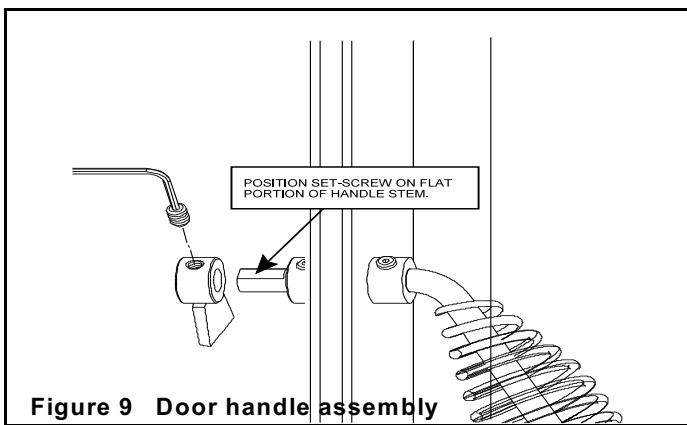

Figure 9 Door handle assembly
1. Position handle assembly through door and secure with collar by sliding over shaft and tightening with allen wrench provided (Figure 9).